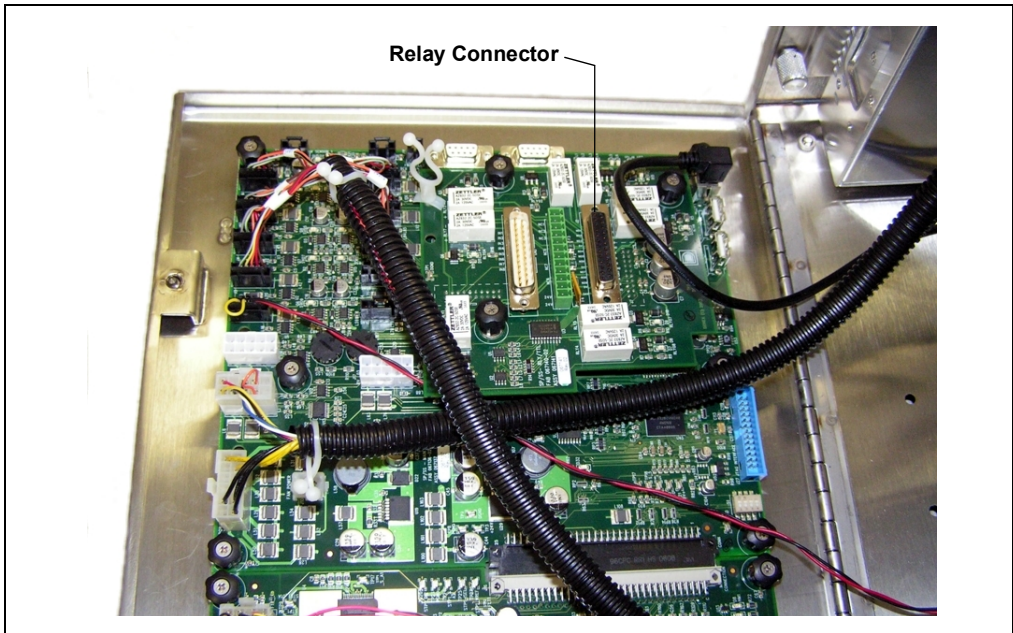

Figure C-18. TTL/Relay Controller Board on SP Service Door
4. Plug the other end of the extension cable into the relay connector on the TTL/relay controller board on the SP service door (see Figure C-18).